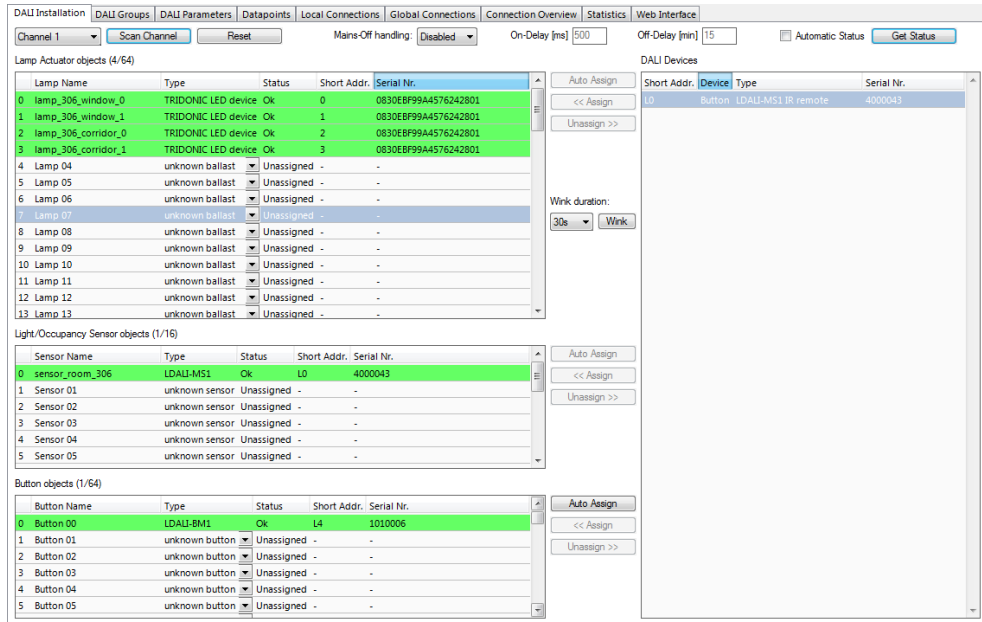

Figure 71: LINX Configurator software, After Configuration Download.
- After the download is complete, go back to the DALI Installation tab and press the **Get Status** button. Now the assigned DALI devices are displayed on a green background (see Figure 71). The green background colour indicates that the communication with the device is OK. If there is a communication error, the device will be displayed with a red background colour.